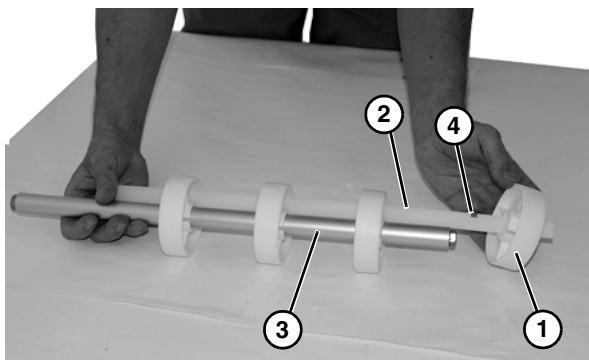

Figure 55
15. Remove rollers (**Figure 55, item 1**) and alignment bar (**Figure 55, item 2**) from shaft (**Figure 55, item 3**). Inspect and replace if worn.
16. Reinstall rollers and alignment bar, with each roller lining up with cutout area (**Figure 55, item 4**) on alignment bar.